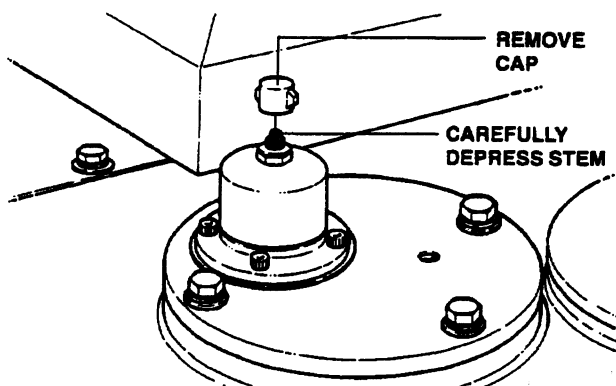

FIGURE 6.26
4. Release hydraulic tank pressure by removing cap from pressure relief valve and depressing relief valve stem. See Figure 6.26.